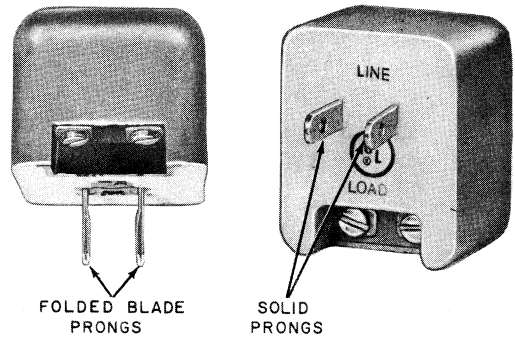

Fig. 2—2012-Type Transformer, Prongs
*The 2012-type transformers manufactured after April 1969 have folded blade-type prongs (Fig. 2), which have improved retaining characteristics. Use of the*
**A. 2012A (MD) or 2012C Transformer**